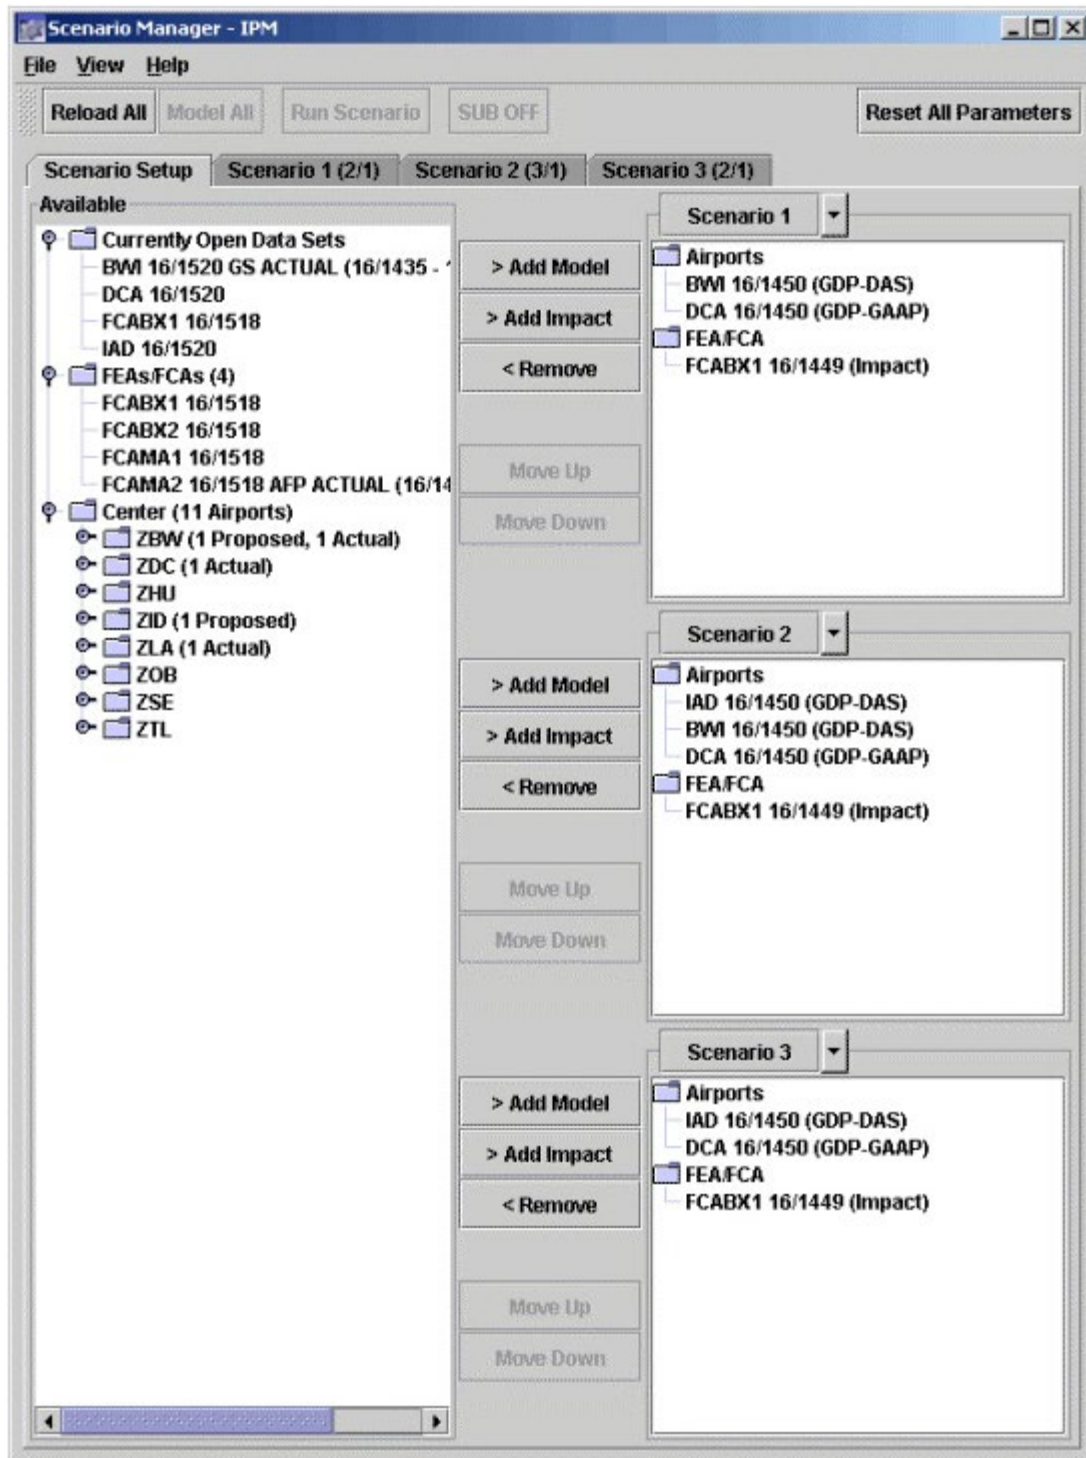

Figure 10-1: Scenario Manager with Three Scenarios Created
- Repeat the previous two steps for each element. In this example, three scenarios are compared (see Figure 10-1).